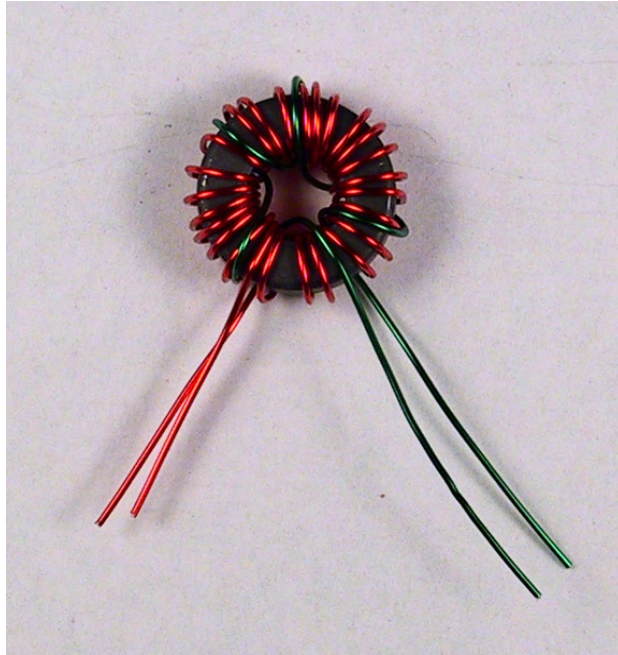

Figure 8 Correct T1 Lead Dressing
- Before you start winding, refer to Figure 8 to see how the leads should be dressed.